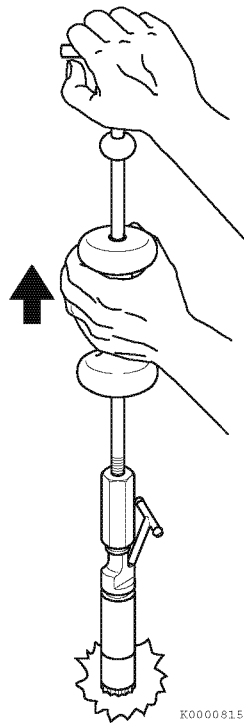

Figure 7-52
*Note: The fuel injectors can usually be removed by manually pulling them out of the cylinder head. If the fuel injectors cannot be manually removed, use the fuel injector removal tool, YANMAR Part No. 129470-92305, and a slide-hammer puller (**Figure 7-52**).*